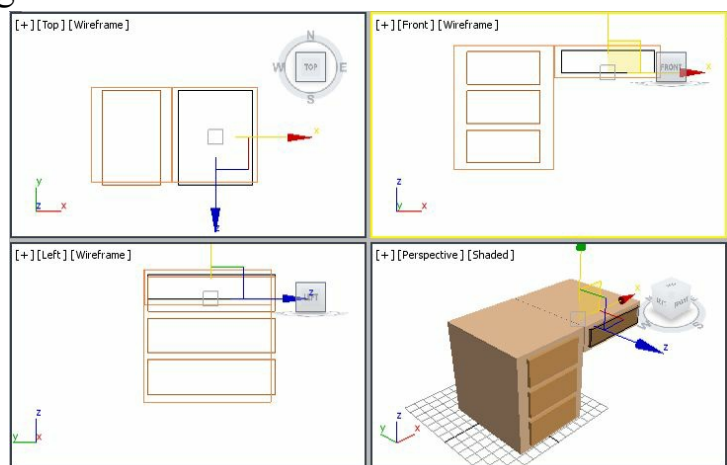

Figure 2-53 Alignment of *drawer004* in all viewports
5. Align *drawer004* with the *right box* in viewports, as shown in Figure 2-53.